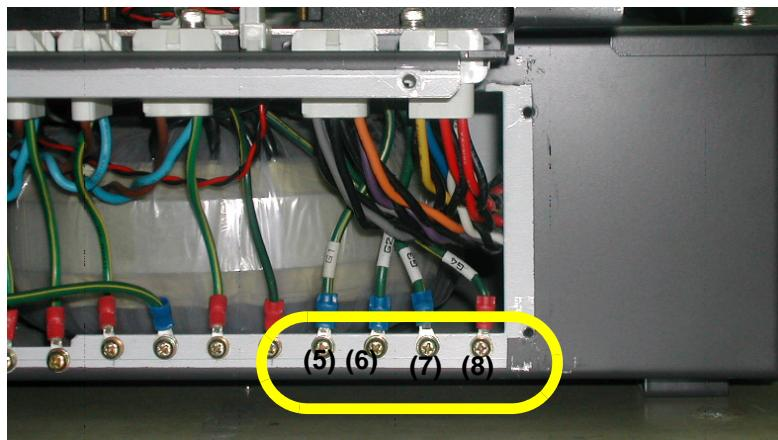

Figure 8-180 Unscrew 4 screws
- 6.) Unscrew four (4) ground screws (5-8). Refer to Figure 8-180.